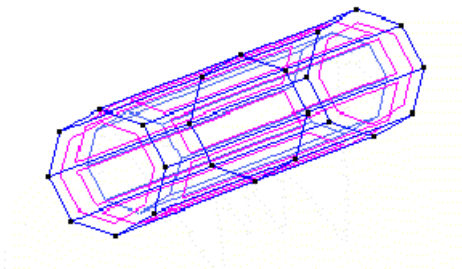

Figure 25. Creation of the volume of the prism
- 7 . Click **Select** and select the surface of the octagon. Press **ESC**. The result is shown in Figure 25.